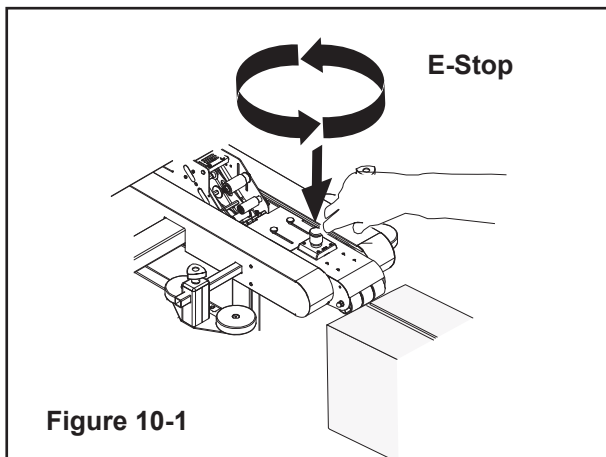

Figure 10-1
The machine electrical supply can be turned off by pressing the latching emergency stop switch. To restart machine, rotate the emergency stop switch clockwise to release the switch latch (**Figure 10-1**). Restart machine by Turning the On/Off switch to the Off (O) position and then to the On (I) position.